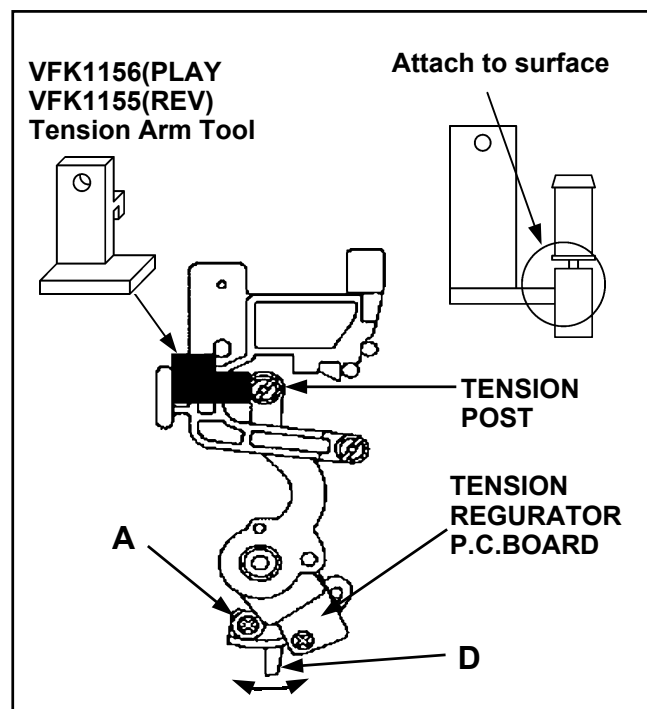

Figure 1-8-2
4. Set VFK1156 (black) at the position as shown in figure 1-8-2.
8. Set VFK1156 (Silver) at the position as shown in figure 1-8-2.